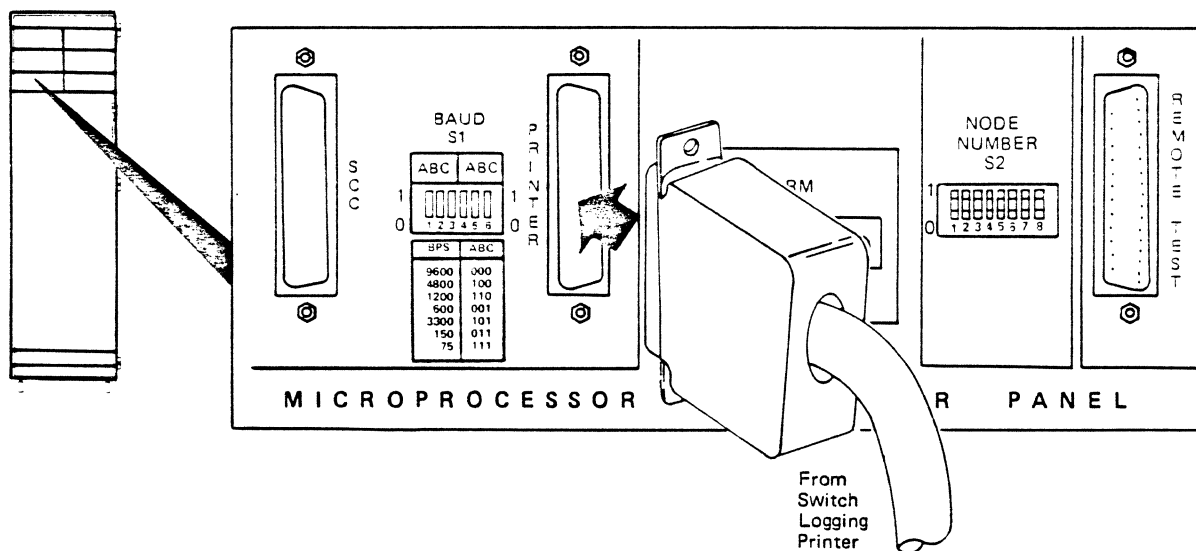

Figure 8-4. Switch Logging Printer Cable Connection to Microprocessor Connector Panel
2. Connect one end of the printer cable to the Microprocessor Connector Panel (Figure 8-4) as indicated on the cabling forms and connect the other end of the cable to the switch logging printer.